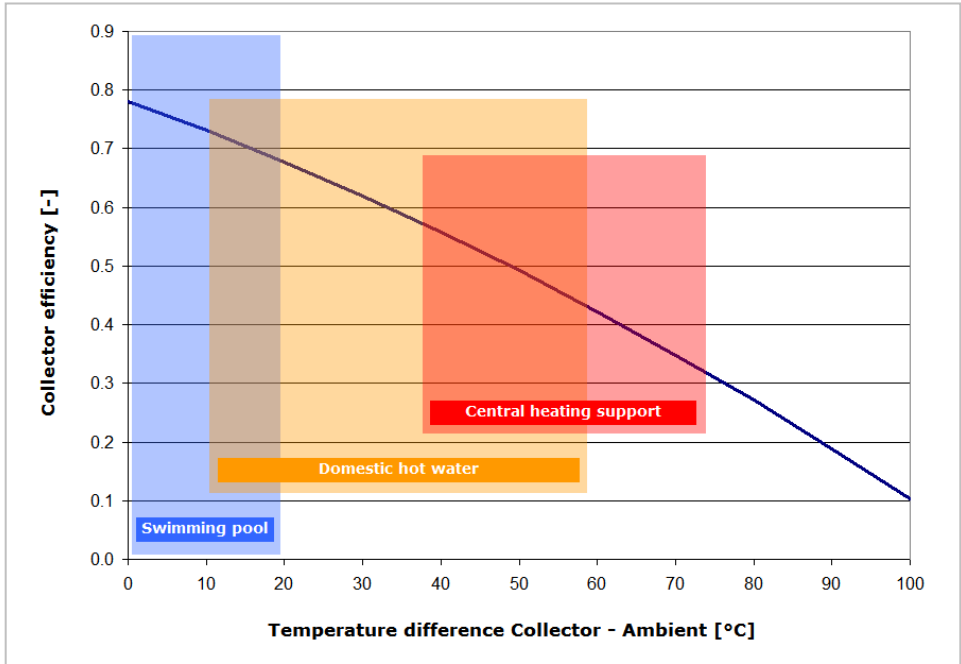

Figure 10 – Thermal efficiency curve Dimplex SOLC220 flat plate collector
The collector heat loss front (7) and collector heat loss back (8) are dependant on the operating conditions of the solar thermal collector, i.e. primarily on the temperature difference between the collector module and the ambient air and wind speed. Applying equation 1 to the Dimplex SOLC220 collector the graph shown in Figure 10 can be derived.
Figure 10 shows that the higher the temperature difference between the collector module and the ambient is, the lower is the efficiency of the product. Due to the required operating conditions of various applications (see Figure 1) the collector has to operate at varying efficiencies.